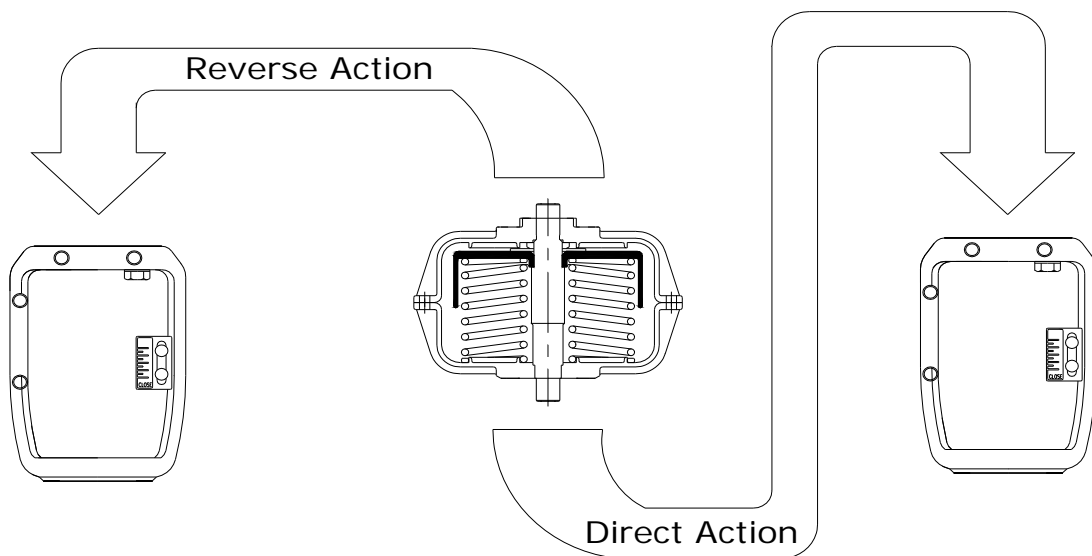

Fig 1.3 Valve Action Switching
A) The Honeywell control valves are of a reversible type and that allows simple switching of the valve action on site. (See Fig 1.3) Air To Close ↔ Air To Open